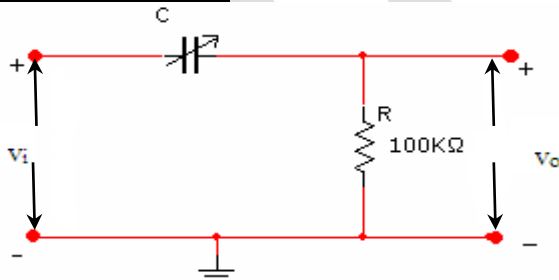
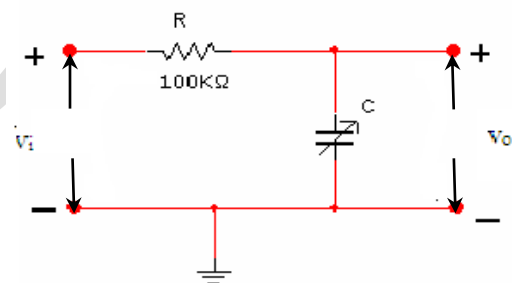

Fig 1.1 High Pass RC circuit
Fig 1.2 Low Pass RC circuit
The reactance of the capacitor depends upon the frequency of operation. At very high frequencies, the reactance of the capacitor is very low. Hence the capacitor in fig.1.1 acts as short circuit for high frequencies. As a result the entire input almost appears at the output across the resistor.
The reactance of the capacitor depends upon the frequency of operation. At very high frequencies, the reactance of the capacitor is almost zero. Hence the capacitor in fig.1.2 acts as short circuit. As a result, the output will fall to zero.
1. Connect the circuits as shown in the above figures (fig.1.1 and fig 1.2).